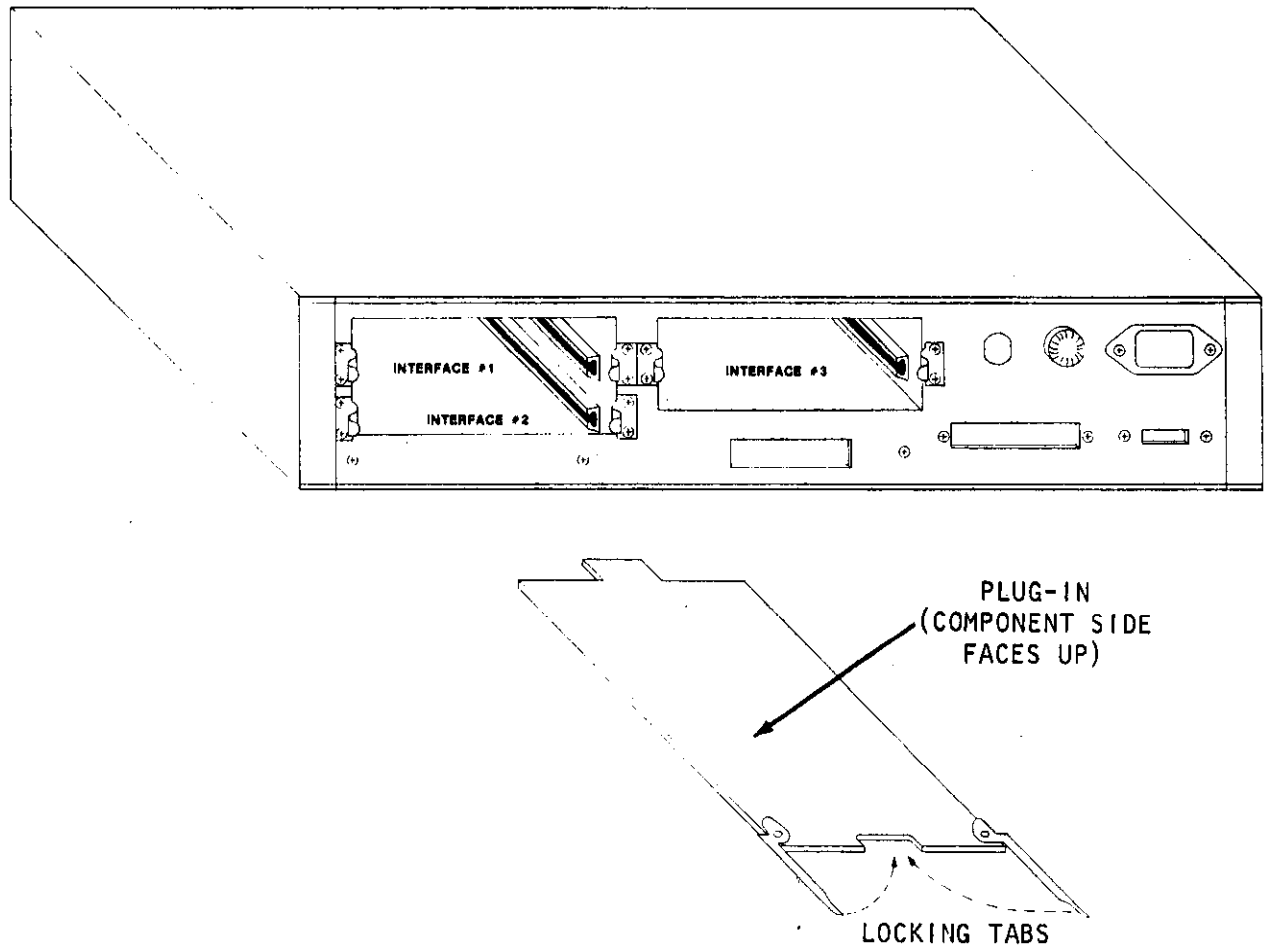

FIGURE 3. Installation of Series 7801, 7802, 7819-IEC and 7813 Cards.
b. Installation. Any Keithley System 1 Interface will mate with any of the three plug-in compartments. Slide the Plug-in Card into the compartment with "component side" facing up. Make certain the card edges are aligned with the grooves in the compartment. When the card is fully inserted, the "locking tabs" on the card should be snapped into locking position as shown in Figure 3. On some Instrument Interfaces a switch setting must be made on the pc card prior to installing in the Control Unit. (See *INSTRUCTION MANUAL, Instrument Interface.*)